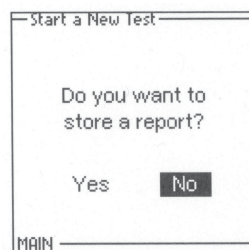

Figure 2
- [8] **SELECT** "No" to "Store a report" (TD reporting software on laptop will do reporting when TD is used with HVA (see Figure 2)).